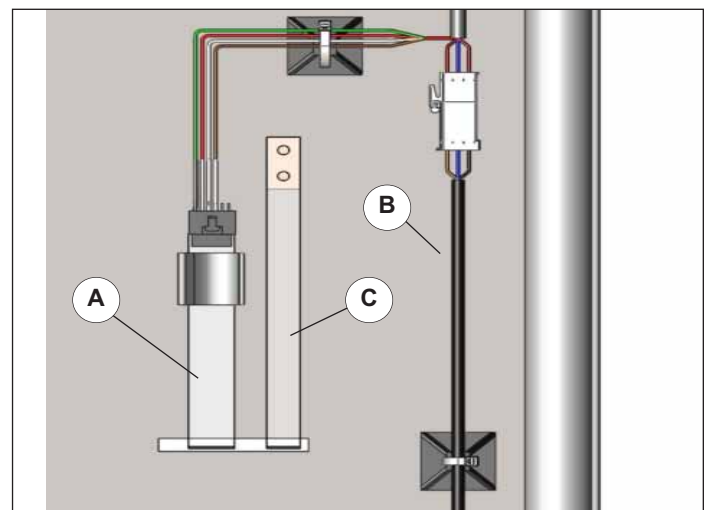

Figure 16.1
7. **Drill a hole for the power supply cable (by others) in the BOTTOM of the control box using the proper connection to maintain the NEMA rating on the enclosure.** Incoming 3-phase power must connect into fuse holder terminals F1, F2, and F3. Ground must attach to the green/yellow terminal. All holes drilled through the control box must be through the **BOTTOM** of the box, Figure 16.1.
9. Membrane (A) & photoeye (B) connections. Conductive tape (C).